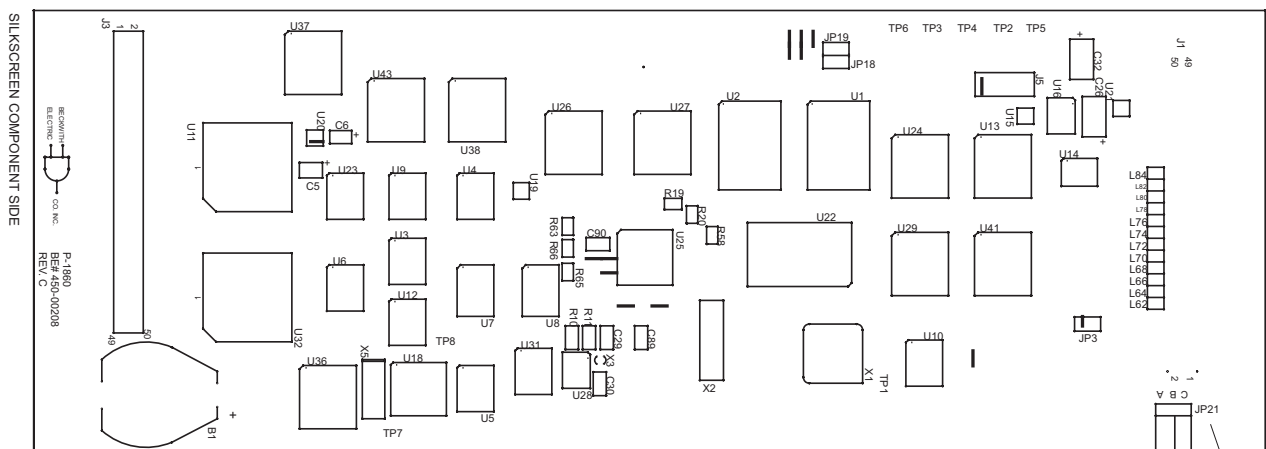
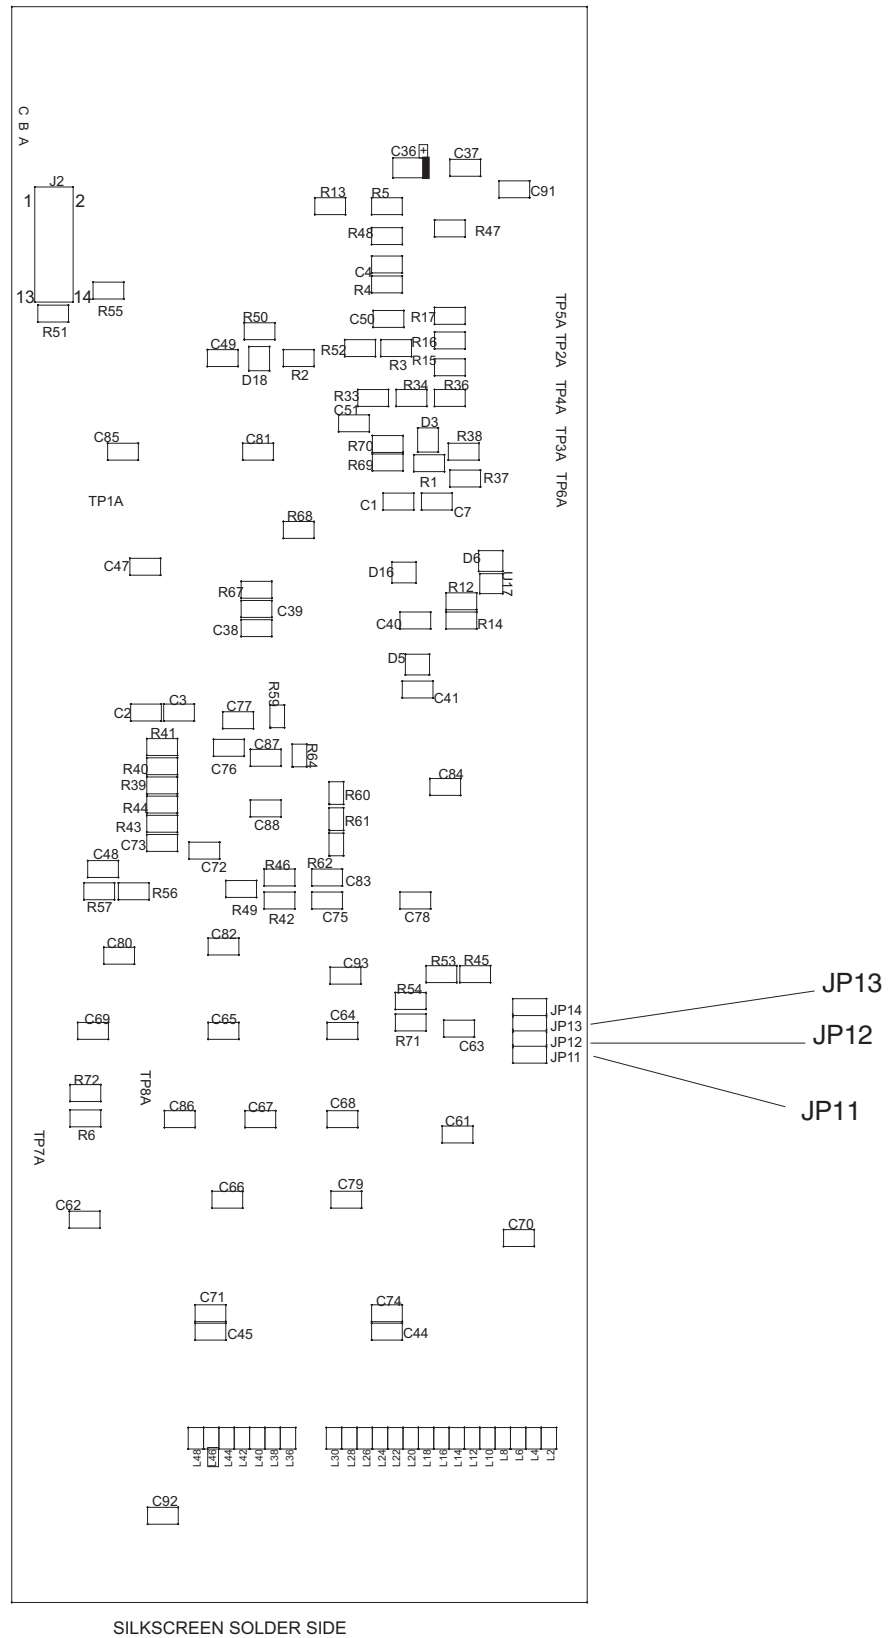

Figure 2-20 M-3410A Top-View CPU Board
Figure 2-21 M-3410A Bottom-View CPU Board
See Figure 2-20, M-3410A I/O Board, or Figure 2-21, M-3410A Top-View CPU Board for Jumper locations.
6. JP21 is now accessible. See Figure 2-20, M-3410A CPU Board.
4. Connect a jumper across JP11 (Figure 2-21).
4. Connect a jumper across JP13 (Figure 2-21).